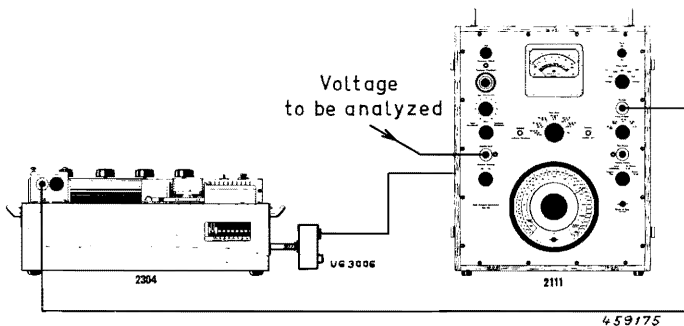

Fig. A. 4. Measuring arrangement for automatic recording of voltage analyses.
1. Connect the instrument as shown in Fig. A 4. and set the switch marked "Automatic Switching" to "Off".